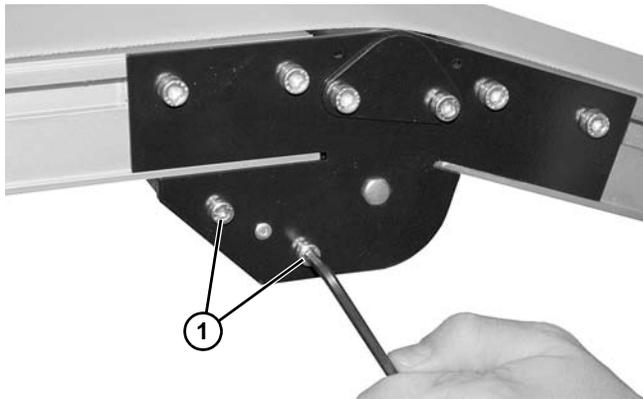

Figure 135
1. Remove screws (Figure 135, item 1) on both sides of conveyor.